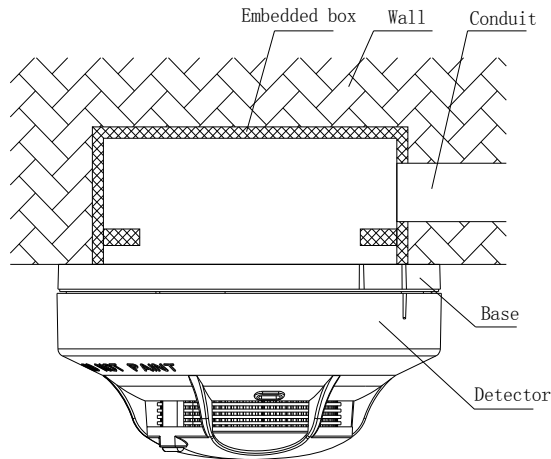

Fig 3: TXC7101 Installation Drawing
5.1 Mounting: The mounting of detector is shown in Fig 3